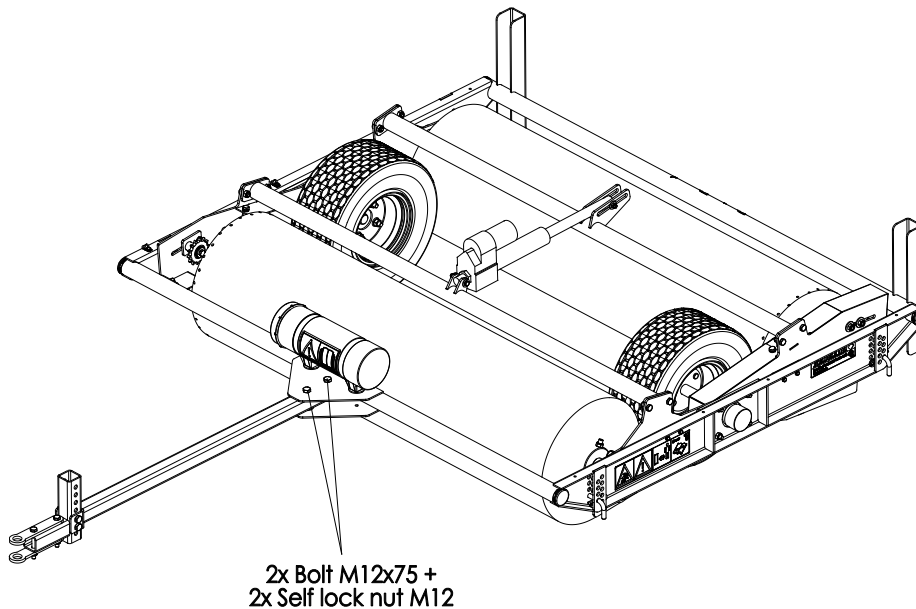

Figure 8
7. Attach the tow bar (Figure 8).